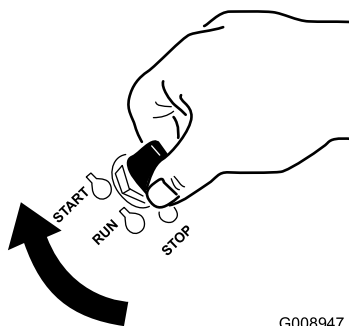

Figure 14
- Turn the ignition key to the Start position (Figure 14).